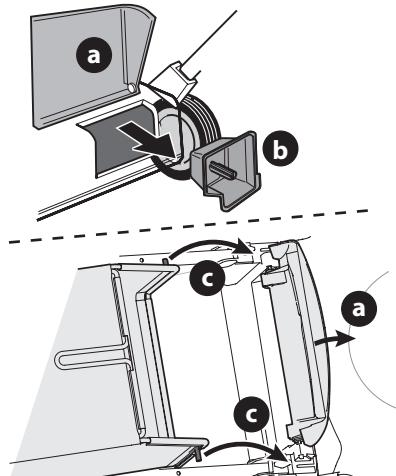

Figure 17
2. Follow steps below to attach grass catcher (Figure 17):